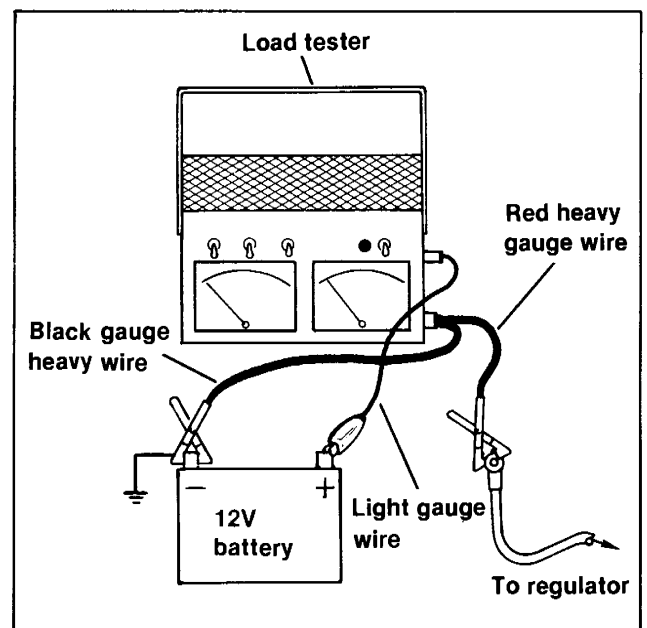

Figure 8-9. Charging System Output Test
1. Connect load tester as shown in Figure 8-9.